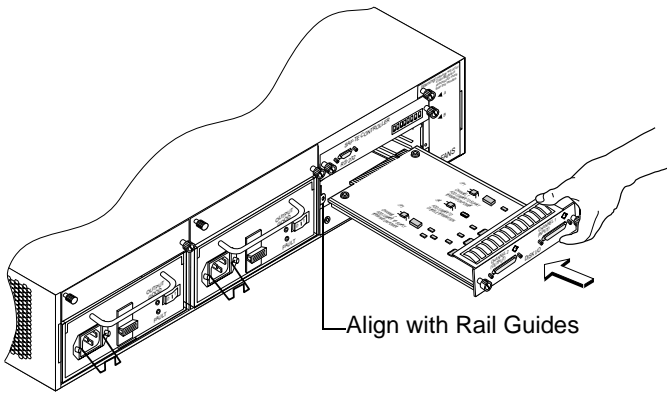

Figure 5-9. Replacing the Disk I/O Card
- 5 Align the replacement card with the rail guides of the open bay and push gently but firmly until the card seats completely. See Figure 5-9.